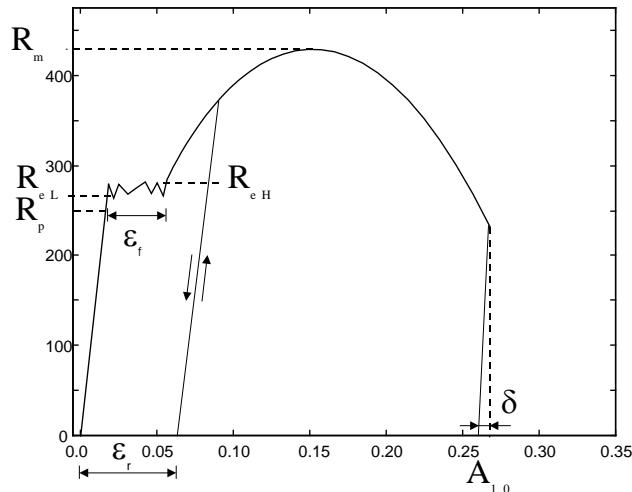

Figure 5:1 Stress - strain curve for hot-rolled steel
Both alloy and non alloy steel is classified in the material tables in different terms, such as density, Poisson's ratio, and elasticity module. Steel stress and strain relationships are often interesting topics, and as early as the 17th century these were classified by R. Hooke (1635-1703) in the Hooke Law, "Out Tensio Sic Vis" as he put it in Latin, "As the tension, so the force" (1). With these words you actually describe a material's elastic properties. When tensioning, the linear range corresponds to up to $R_p (\sigma_p)$, proportionality limit, see figure 5:1.
A material stress-strain curves contain a wealth of information. Tension is expressed as (2) and strain as (3). The tensile yield limit for soft steel with low carbon content is typically, σ_s , which is the tension at which the material begins to flow; the material undergoes plastic deformation. You usually divide the tensile yield limit to upper, $R_{eH} (\sigma_{yu})$, and lower yield limit, $R_{eL} (\sigma_{yl})$, see figure 5:1.